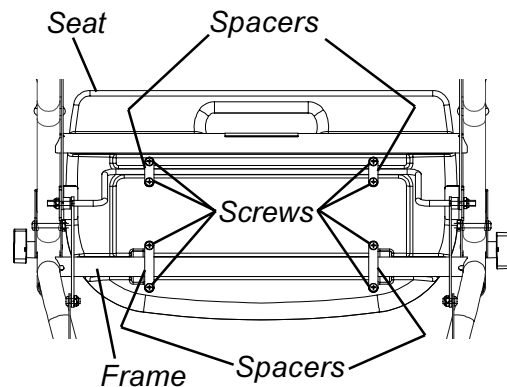

FIGURE 14- REPLACING THE SEAT
Using Hand Brakes (FIGURE 14)
REPLACING THE SEAT (FIGURE 14)
5. Position the NEW seat onto the frame as shown in FIGURE 14.